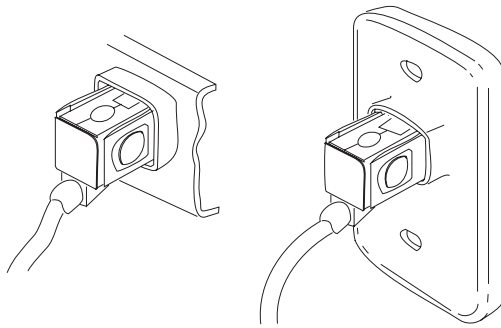

Figure 42. Typical Store Loop Receptacles
- Disconnect the primary store controller from the store loop by unplugging its store loop cable from the store loop receptacle. See Figure 42 on page 526.
- Disconnect the backup store controller from the store loop by unplugging its store loop cable from the store loop receptacle. See Figure 42 on page 526.